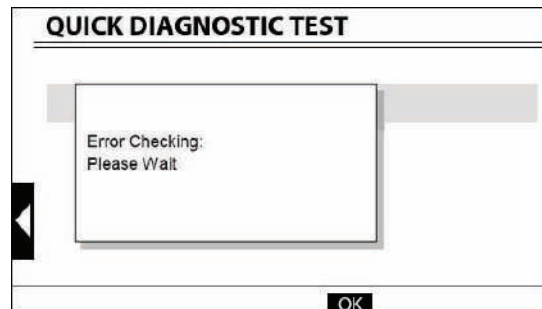

Figure 5 - Quick Diagnostic Test
- **Quick Diagnostic Test** – Performs a quick system level test of the dryer and displays error results in a dialog box (see figure 5). Tests drum motor and heater(s), exhaust and inlet thermistors, air flow (AF), and low line voltage (L2). Test stops on first error detected. Use this test to check for errors and verify repairs. **NOTE:** Door must be closed to perform test.